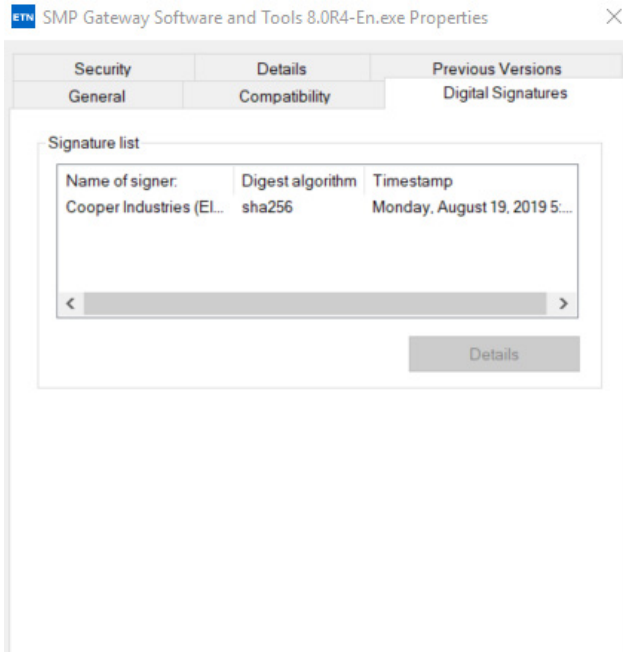

Figure 2: The Properties windows, Digital Signatures tab
6. Select the **Digital Signatures** tab. Note that when files are not digitally signed, the **Digital Signatures** tab is not available. As we mentioned earlier, Eaton's Substation Automation software is always digitally signed. (Refer to Figure 2)